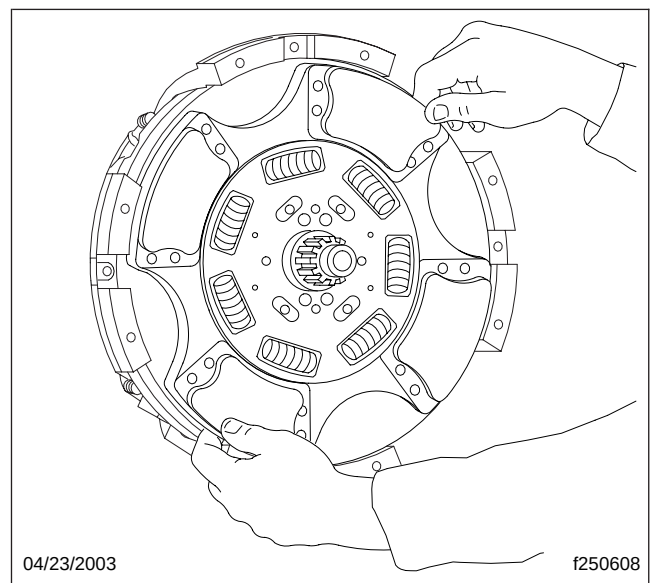

Fig. 3, Installing the Rear Driven Disc
- 4.1 Install the rear driven disc on the aligning tool, with the side stamped *INTERMEDIATE PLATE SIDE* facing away from the clutch cover. See Fig. 3.